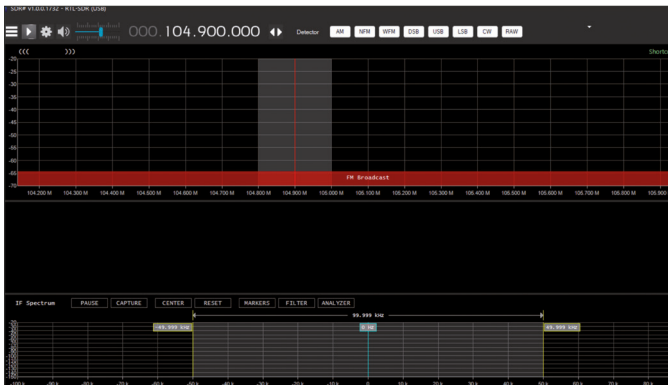

Figure 11.4: SDR Sharp startup screen.
- Start **SDR Sharp** on your laptop (assuming you have installed the **SDR Sharp** on your laptop). Figure 11.4 shows the startup screen.